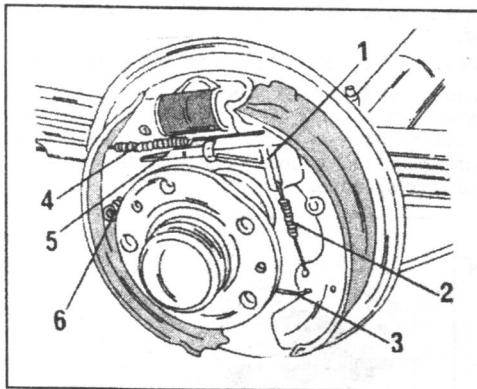

Fig. 8.10. — View of a fitted rear brake assembly.
- Referring to Fig. 8.10 remove the adjuster lever (1) and the unhook the return spring (2). The upper return spring (4) and the lower spring (3) must be removed with a pair of pliers or use a screwdriver and carefully lift the spring hooks out of their anchorage. The thrust piece (5), i.e. the strut for the self-ad-